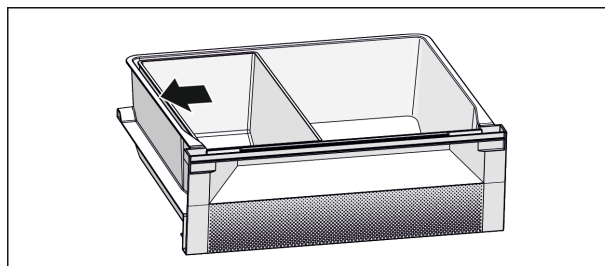

Fig. 73
- ▶ For an optimum cooling function: Position Fish & Seafood tray according to illustration (see Fig. 73).